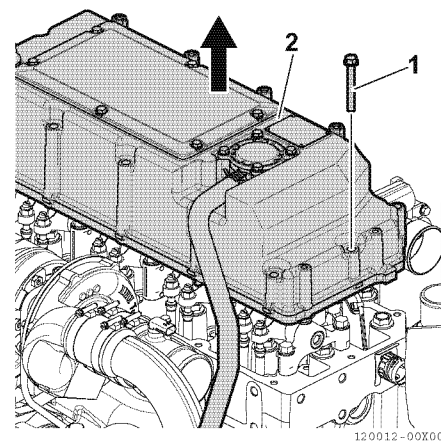

Fig.14-48
- Loosen the 12 bolts (1, Fig.14-48) that fasten the bonnet to the cylinder head, then remove the bonnet (2, Fig.14-48) together with the breather hose.